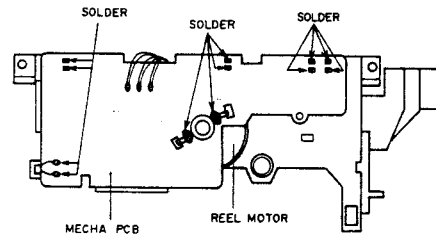

Fig. 3-7
- 1) Remove all the solder on the detection switches, lead wires of the solenoid and REEL MOTOR leads on the MECHA PCB with a soldering iron (Refer to Fig. 3-7).